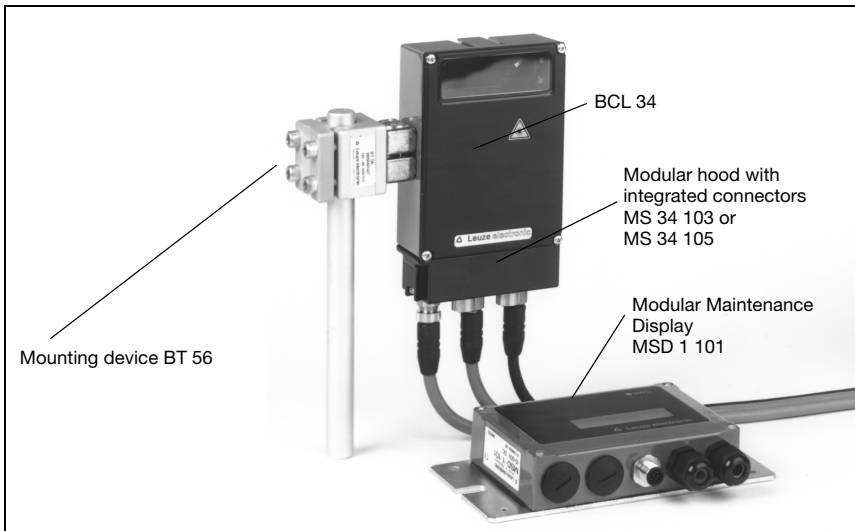

Figure 7.2: Mounting example BCL 34
- using the dovetail groove and the corresponding mounting accessories (see figure 7.2)